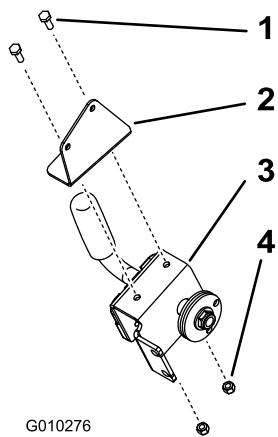

Figure 7
1. Install the handle assembly to the angle bracket with 2 bolts (1/4 x 3/4 inches) and 2 locknuts (1/4 inch)(Figure 7). Ensure to use the correct bracket.